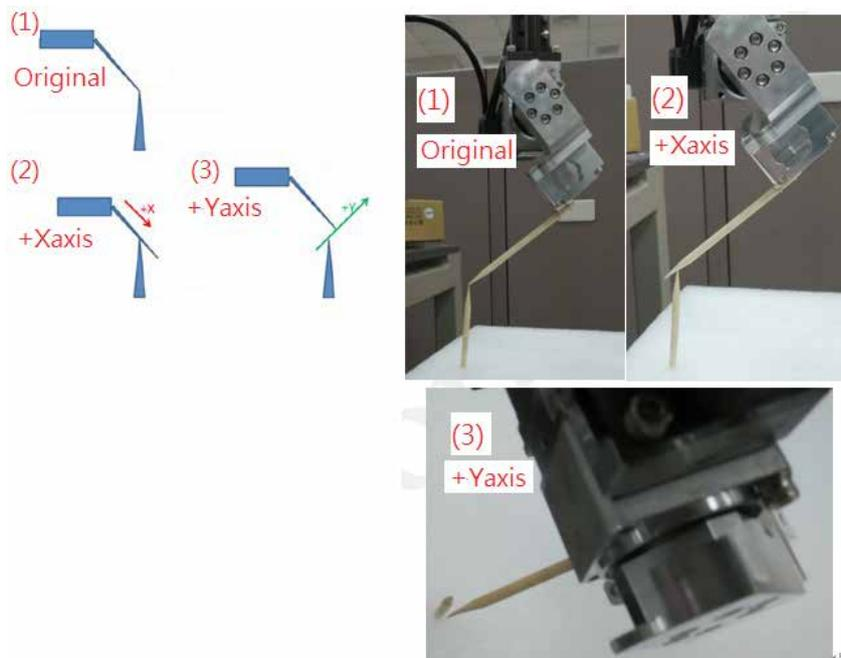

Figure 2-26 Point Data – Tool Orientation Calibration Setting
- B. Set the Original point, X-axis and Y-axis directions of the Tool, as shown and defined in Figure 2-26.